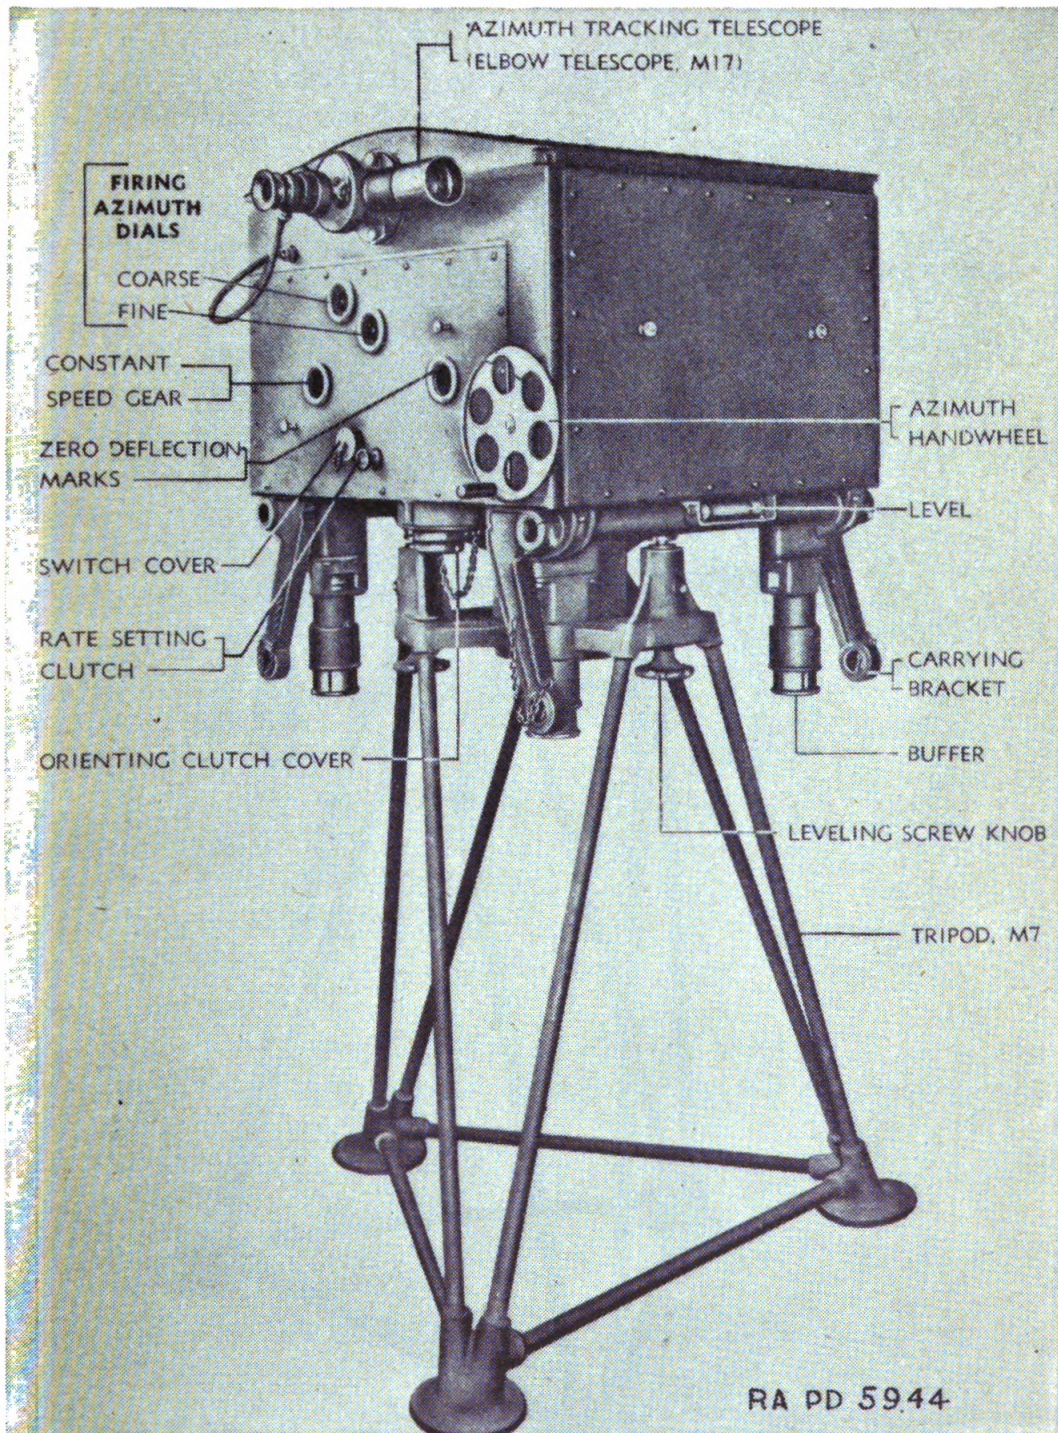

FIGURE 92.—Antiaircraft director M5—front and right side.
**100. Director, antiaircraft, M5.**—The antiaircraft director (figs. 92 and 93) is an instrument which computes the data for directing the fire of antiaircraft guns. The antiaircraft director M5 is used with the 37-mm antiaircraft gun carriage M3A1. Data calculated by the director are transmitted and applied to the guns by means of the remote control system M1 with electric power supplied by the generating unit M5. The director is also applicable to 40-mm antiaircraft gun matériel.
*a.* (1) The director requires three operators: a range setter, an elevation tracker, and an azimuth tracker.
(2) The director operates within the following limits: